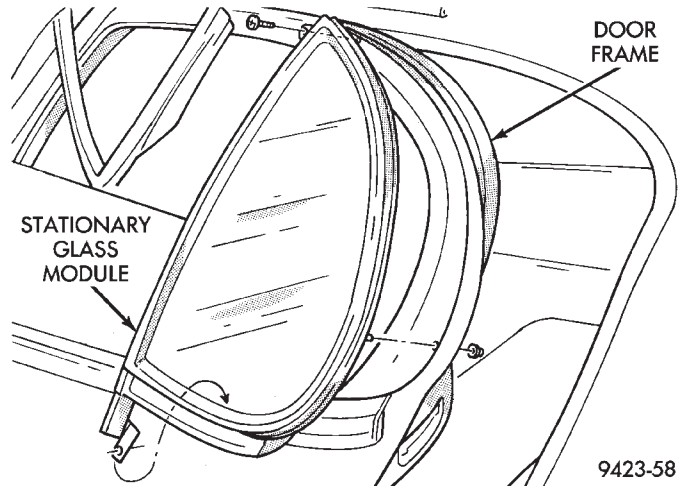

Fig. 8 Rear Door Stationary Glass
- (1) Remove door trim panel.
- (2) Open door glass.
- (3) Pull glass run weatherstrip from rear channel.
- (4) Remove screws holding top of stationary glass to door frame.
- (5) Remove nut holding rear of stationary glass to door frame (Fig. 8).
- (6) Remove bolt holding bottom of stationary glass to inner door panel.
- (7) Using a suitable trim stick, pry stationary glass away from rear most end of door frame.
- (8) Using a utility knife, cut butyl adhesive holding stationary glass to door frame.
- (9) Separate stationary glass from vehicle.